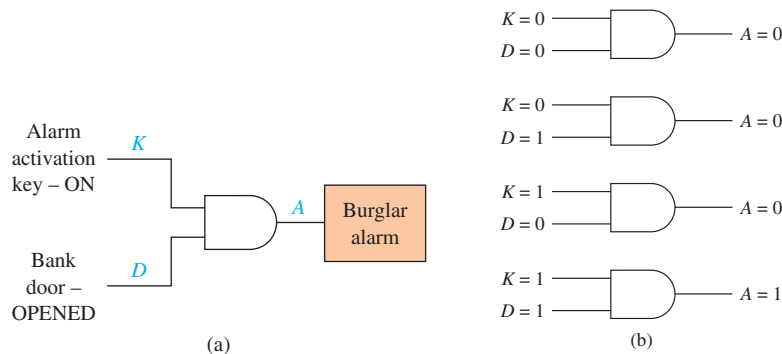

Figure 3-2 AND gate: (a) Used to activate a burglar alarm; (b) all combinations of key ON (K) and door OPEN (D).
One example of how an AND gate might be used is in a bank burglar alarm system. The output of the AND gate will go HIGH to turn on the alarm if the alarm activation key is in the ON position AND the front door is opened. This setup is illustrated in Figure 3-2(a). Figure 3-2(b) shows the result for every combination of Key (K) and Door (D).